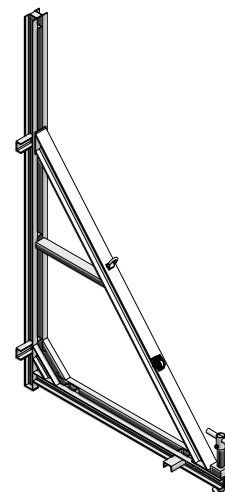

Fig. 4.3 Support frame STB 300
- STB 300 up to a height of 3.30 m (Fig. 4.3 and page STB-21).